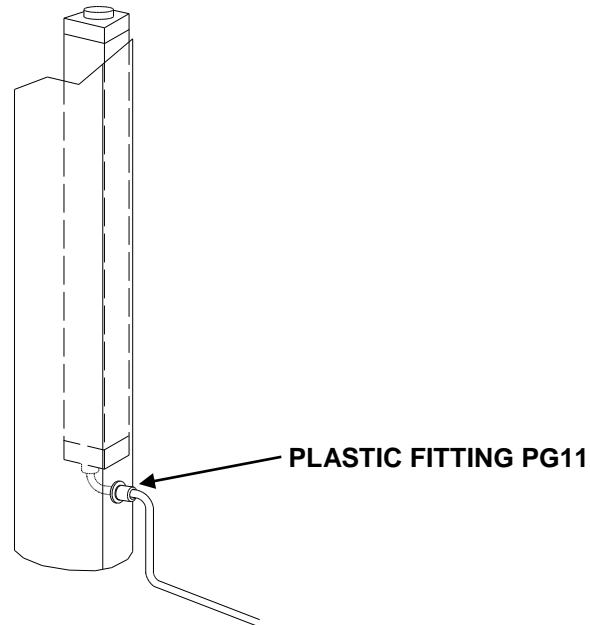

Figure 5
FITTING FOR CABLE (COLUMN FMC-BR) (Fig. 5)
- Insert the cable (terminating with the female connector) in the PG11 plastic fitting, housed in the column (figure 5).